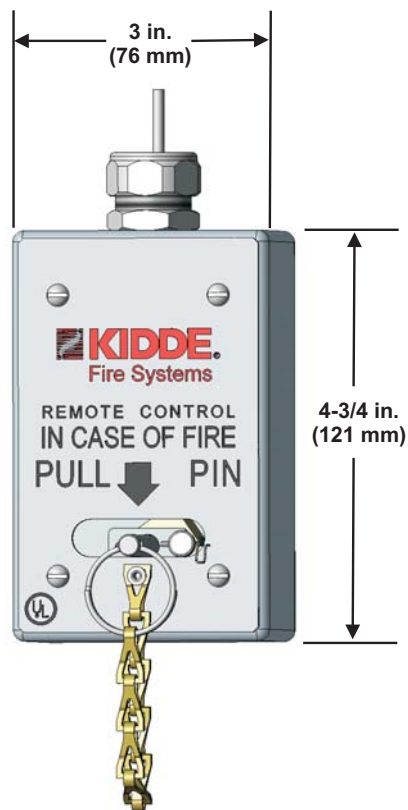

Figure 2-35. Surface Mounted End-of-Line Remote Manual Release, P/N 87-120052-001
- End-of-Line Surface Mounted Remote Manual Control, P/N 87-120052-001 (Figure 2-35)